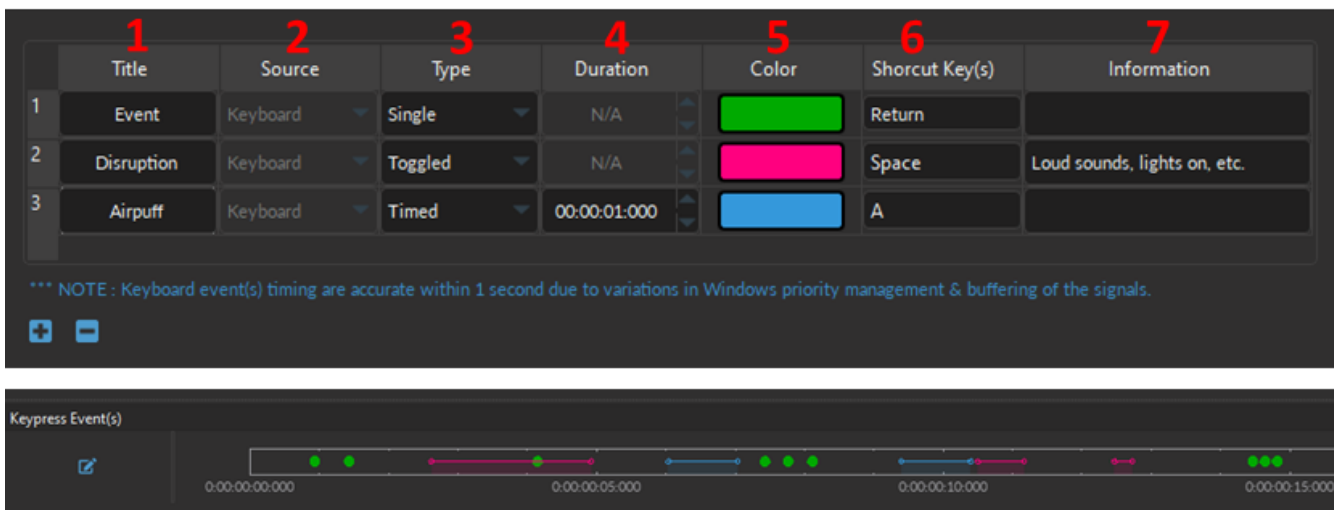

Figure 8.26: Channel(s) configuration window, Keypress Event(s)
The following are the configurable parameters of a **KeyPress Event**, per Fig. 8.26:
6. The **Shortcut Key(s)** can be any keyboard key, including space bar, enter, backspace, any letters, number and special characters (*, !, ? etc.). To specify the key, click inside the *Shortcut Key(s)* cell, then press the keyboard key of choice. If a key was properly set, it will appear in the *Shortcut Key(s)* cell (as in Fig. 8.26, column 6).